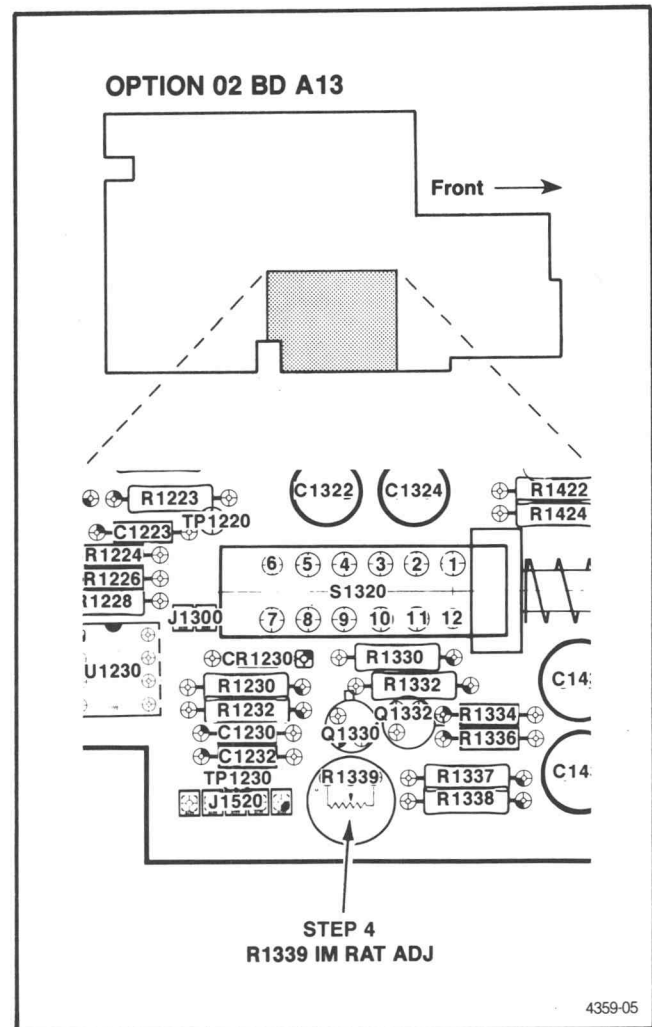

Fig. 4-11. Location of R1339, Im Ratio Adj.
h. ADJUST—A13 R1339, IM Ratio Adj, so the composite signal amplitude is 5 divisions, peak-to-peak. Refer to Fig. 4-11 for the adjustment location.